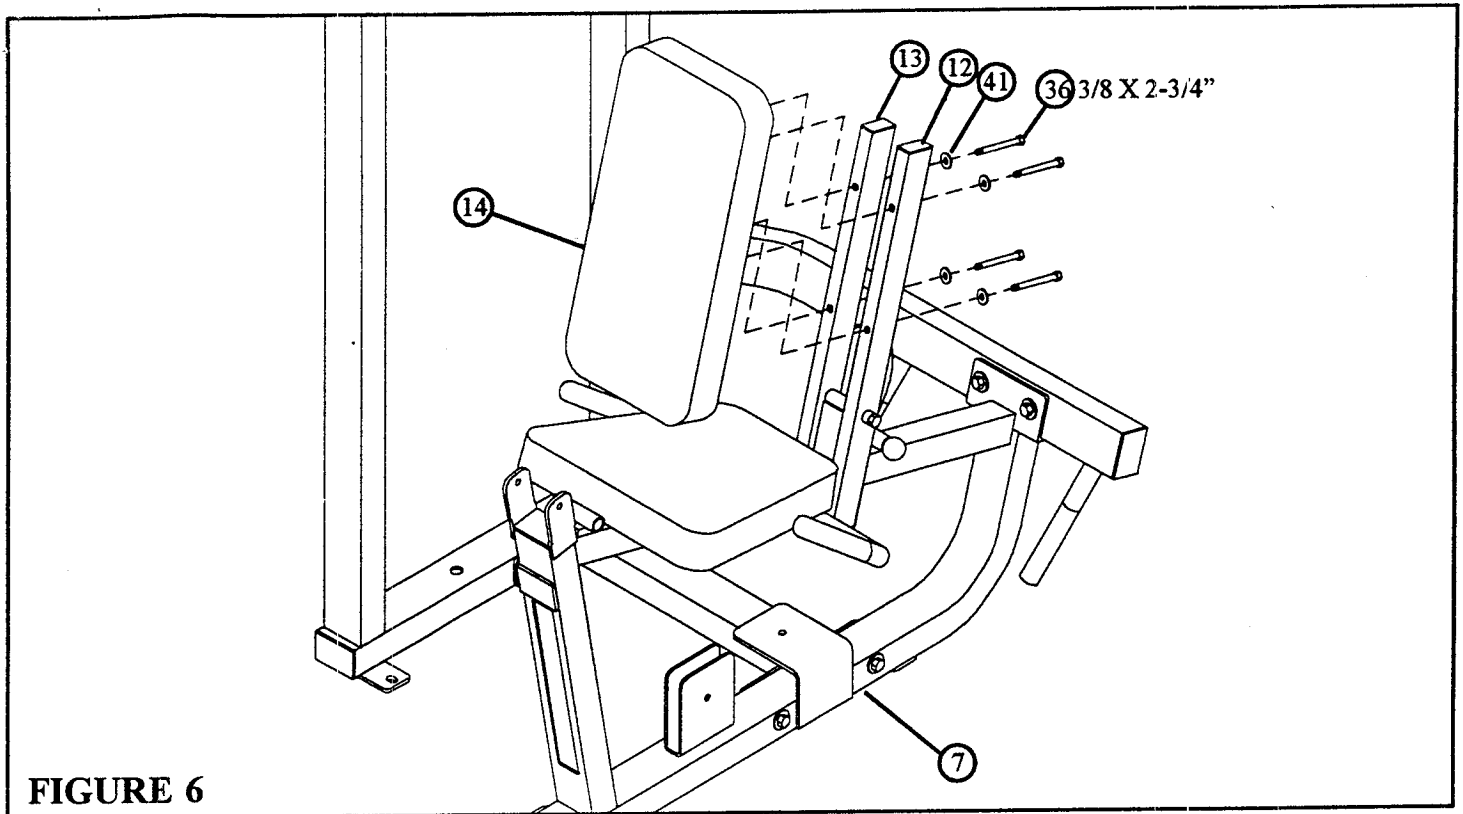

FIGURE 6
- SECURELY assemble BACK PAD (14) to the RIGHT & LEFT PAD SUPPORTS (12) (13) using four 3/8 X 2-3/4" BOLTS (36) and four 3/8" WASHERS (41) as shown in FIGURE 6.